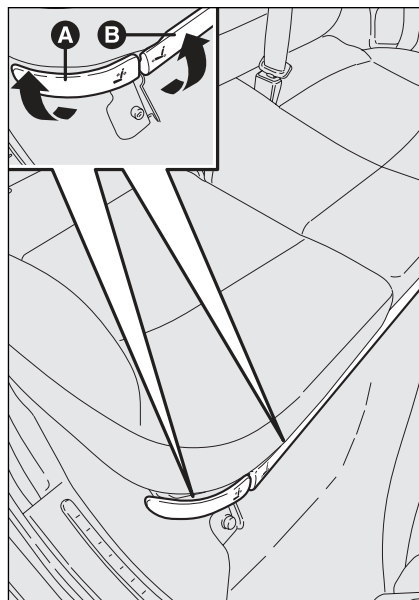

fig. 98
- ☐ operate the lever **B**-fig. 98 and adjust the seat in the required position (e.g. completely forward if you want to obtain maximum boot extension);